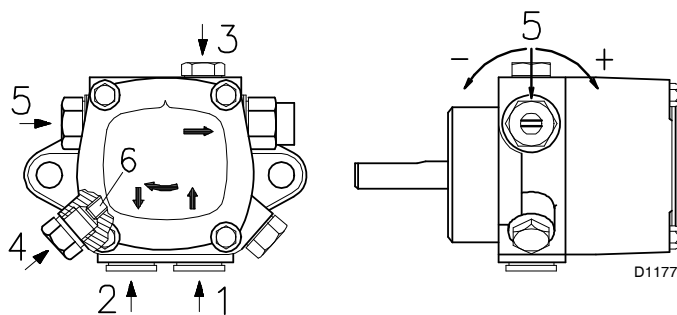
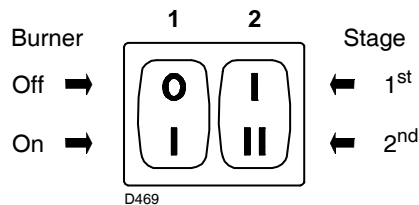

Fig. 21
Fig. 22
For the priming pump loosen the screw 3)(Fig. 21) in order to bleed off the air contained in the suction line and wait until the fuel flows out.
- For self-priming to take place, one of the screws 3)(Fig. 21) of the pump, must be loosened in order to bleed off the air contained in the suction line.
- Start the burner by closing the control devices, with switch 1)(Fig. 22) in the "ON" position and with switch 30)(Fig. 5 at page 13) in the "OIL" position.
- The pump can be considered to be primed when the gas oil starts coming out of the screw 3)(Fig. 21). Stop the burner: switch 1)(Fig. 22) set to "OFF" and tighten the screw 3).